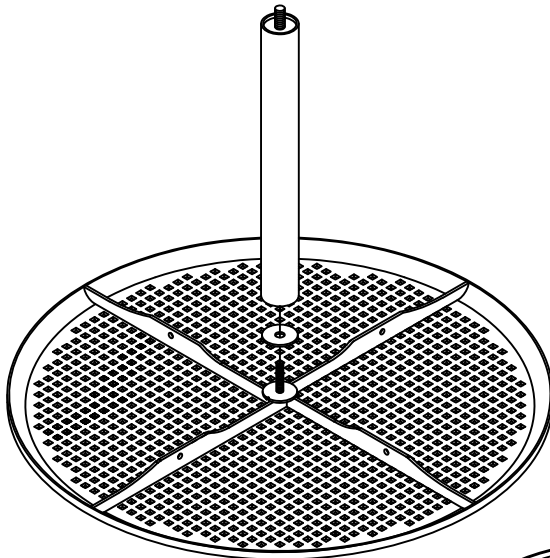

FIG. 2
Invert top (A-) and attach leg (C2) to threads on top (A-). Be sure to slide washer (D3) over threads prior to tightening leg to top. The use of (M) Locktite 271 is necessary to ensure a secure joint at top with leg. Apply liberally to threads and follow manufacturers instructions. See Fig. 2.